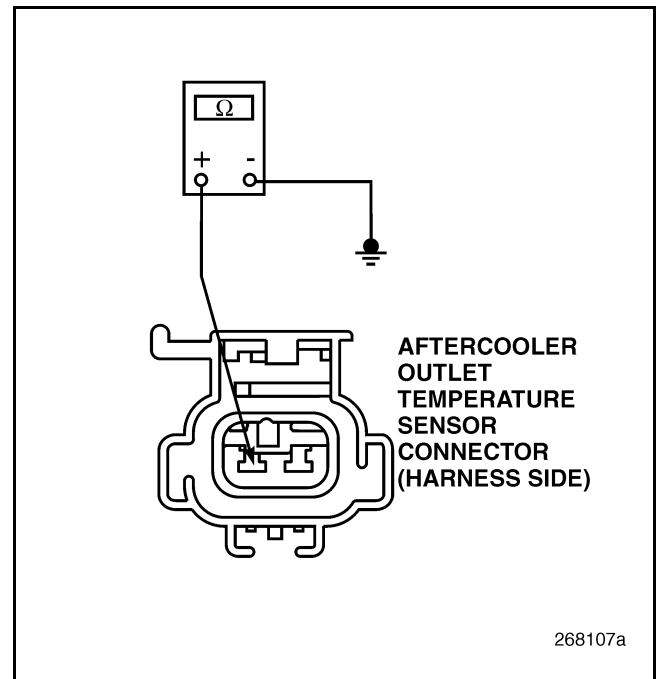

Figure 811
4. Check for continuity between pin 2 of the AOT Sensor harness connector and a good ground (see Figure 811).